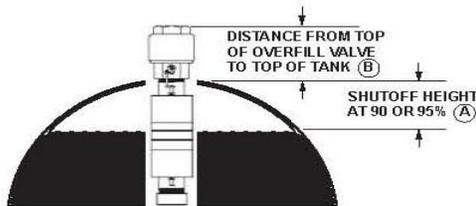
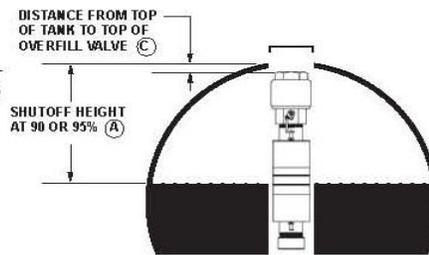

FIGURE 2
FIGURE 3
2. Determine the SHUTOFF HEIGHT at 90 or 95% full. (See Fig. 2 or Fig. 3 below & Mfg. tank chart).
3. If your SHUTOFF HEIGHT is less than 12 inches (for use in gasoline), or less than 13 inches (for use in diesel fuel), then YOU MUST INSTALL THE OVERFILL DEVICE ON A RISER PIPE using Table 2 and Fig. 2 to determine THE DISTANCE FROM THE TOP OF THE OVERFILL VALVE TO THE TOP OF THE TANK.
4. If your SHUTOFF HEIGHT is 12 inches or more (for gasoline use), or 13 inches or more (for diesel use), then use Table 3 and Fig. 3 to determine THE DISTANCE FROM THE TOP OF THE TANK TO THE TOP OF THE OVERFILL VALVE.